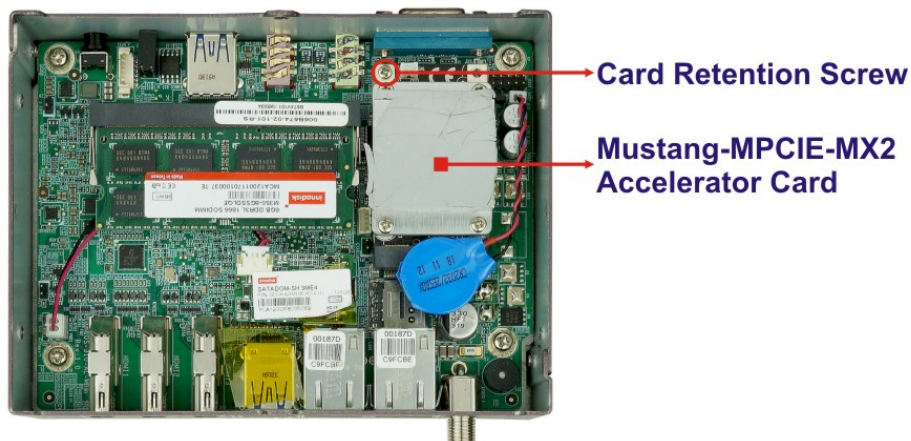

Figure 3-4: Mustang-MPCIE-MX2 Accelerator Card
- Step 3:** Remove the pre-installed Mustang-MPCIE-MX2 accelerator card to access the M.2 slot. To remove the card, remove the retention screw indicated in **Figure 3-4** and gently pull the card out from the slot.